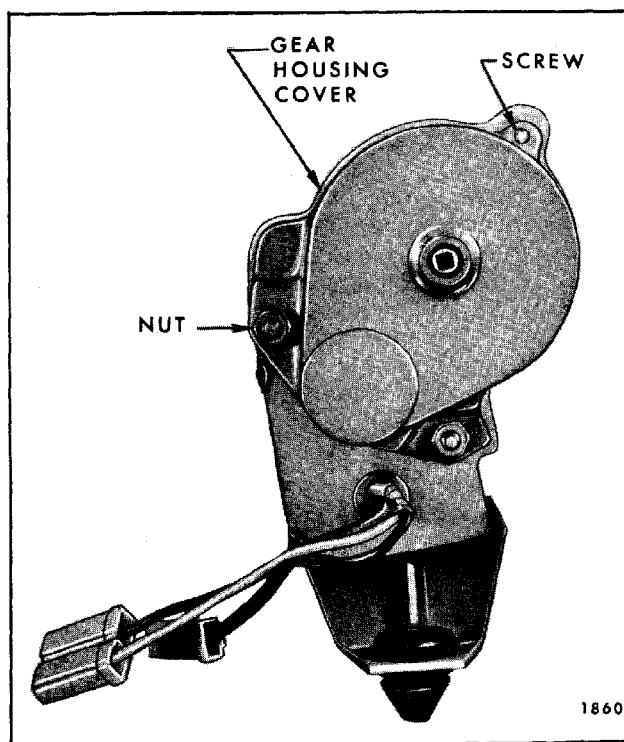

Fig. 6-75—Folding Top Lift Assembly
3. Remove nuts, washers and screw securing gear housing cover to motor assembly (Fig. 6-75).